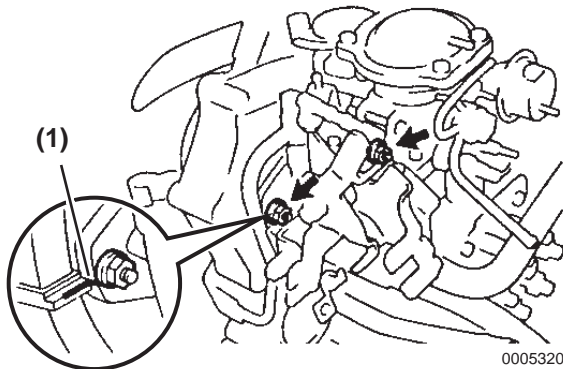

Figure 6-57
4. Align the match marks (**Figure 6-57, (1)**) of the fuel injection pump and timing gear case.